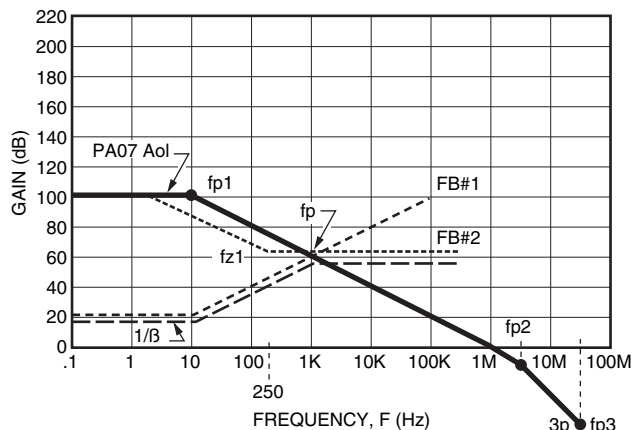

FIGURE 19. FIRST GUESS MAGNITUDE PLOT FOR STABILITY
**STEP 3:** Refer to Figure 19 which repeats PA07 Aol and FB#1. We will add FB #2 to force the high frequency part of the 1/β curve to flatten out and intersect the PA07 Aol curve at 20 dB per decade. FB #2 will dominate at frequencies above 1 KHz. Although our V-I circuit has two feedback paths, the op amp will follow whichever feedback path is dominant. This means the larger β is, the more voltage is fed back from the output to the -input as negative feedback ( $\text{Remember } \beta = V_{fb}/V_{OUT}$ ). With a larger β, 1/β will
**STEP 4:** In Figure 19 the long-dashed line represents the 1/B feedback path that the PA07 operates in for small signal AC. According to our first order check for stability we see a 20 dB per decade rate of closure indicating a stable design. But let’s do our complete stability check by using the 1/B curve and PA07 Aol curve to plot the open loop phase plot. Remember the following rules when plotting open loop phase plots for stability checks.
Figure 20 is the resultant open loop phase plot using the information from Figure 19. After plotting individual open loop poles and zeroes, and drawing the appropriate slopes, we graphically add the slopes to yield a resultant open loop phase as shown in Figure 20. Notice fp3 in Figure 20 is a triple pole. It is easier to plot this as shown in Figure 20 as three poles “on top” of each other. This